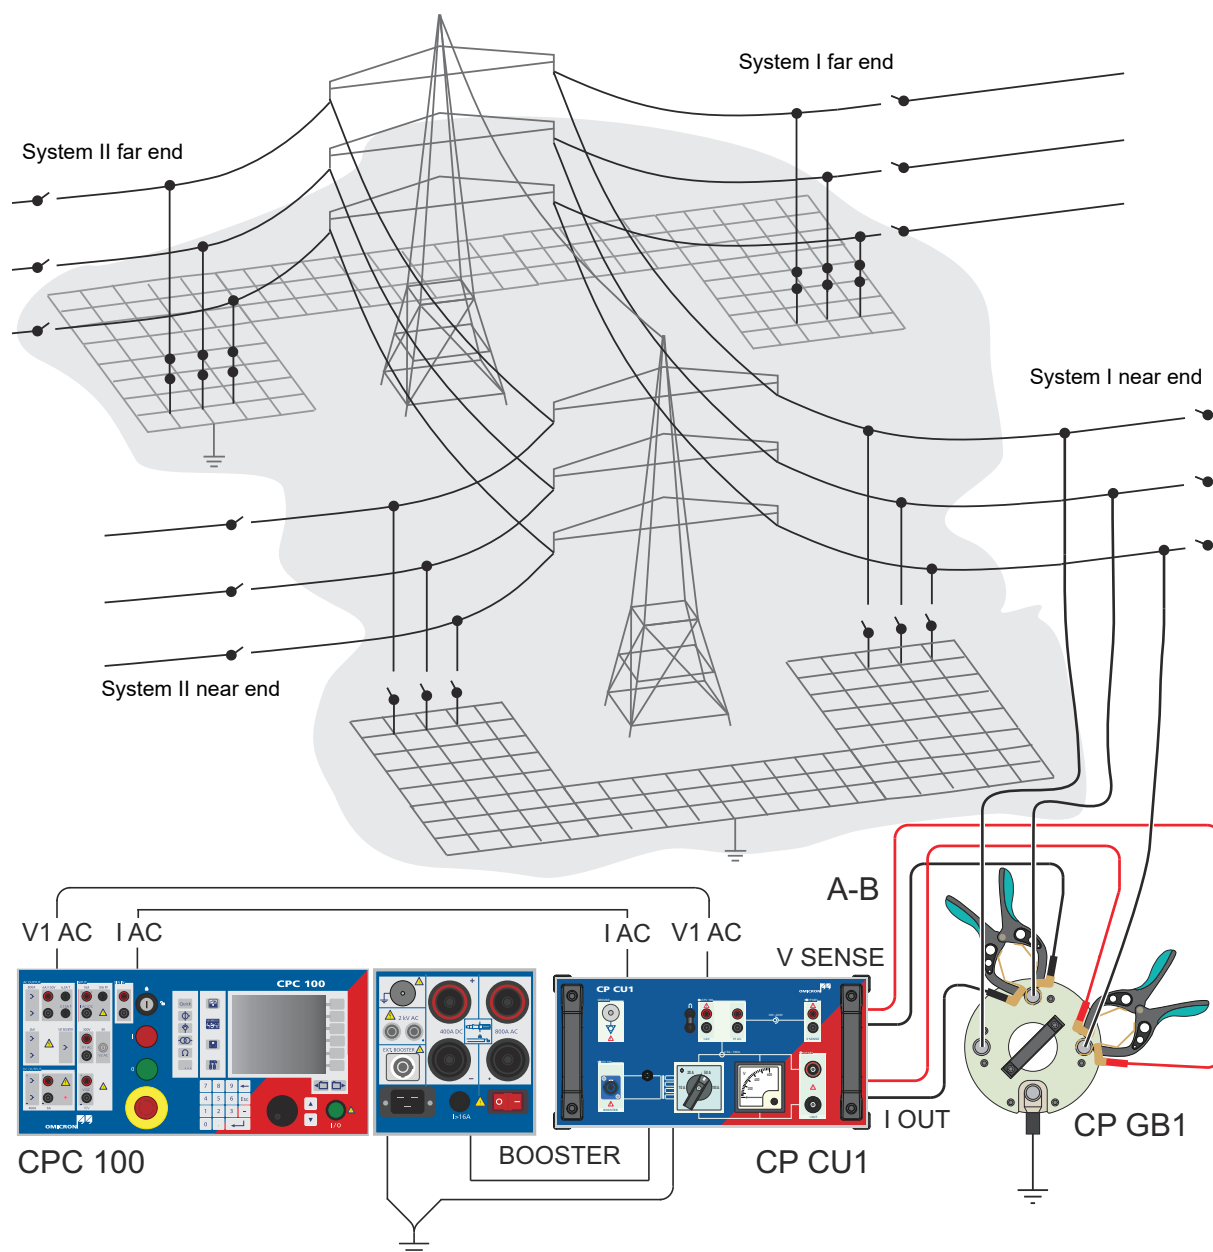
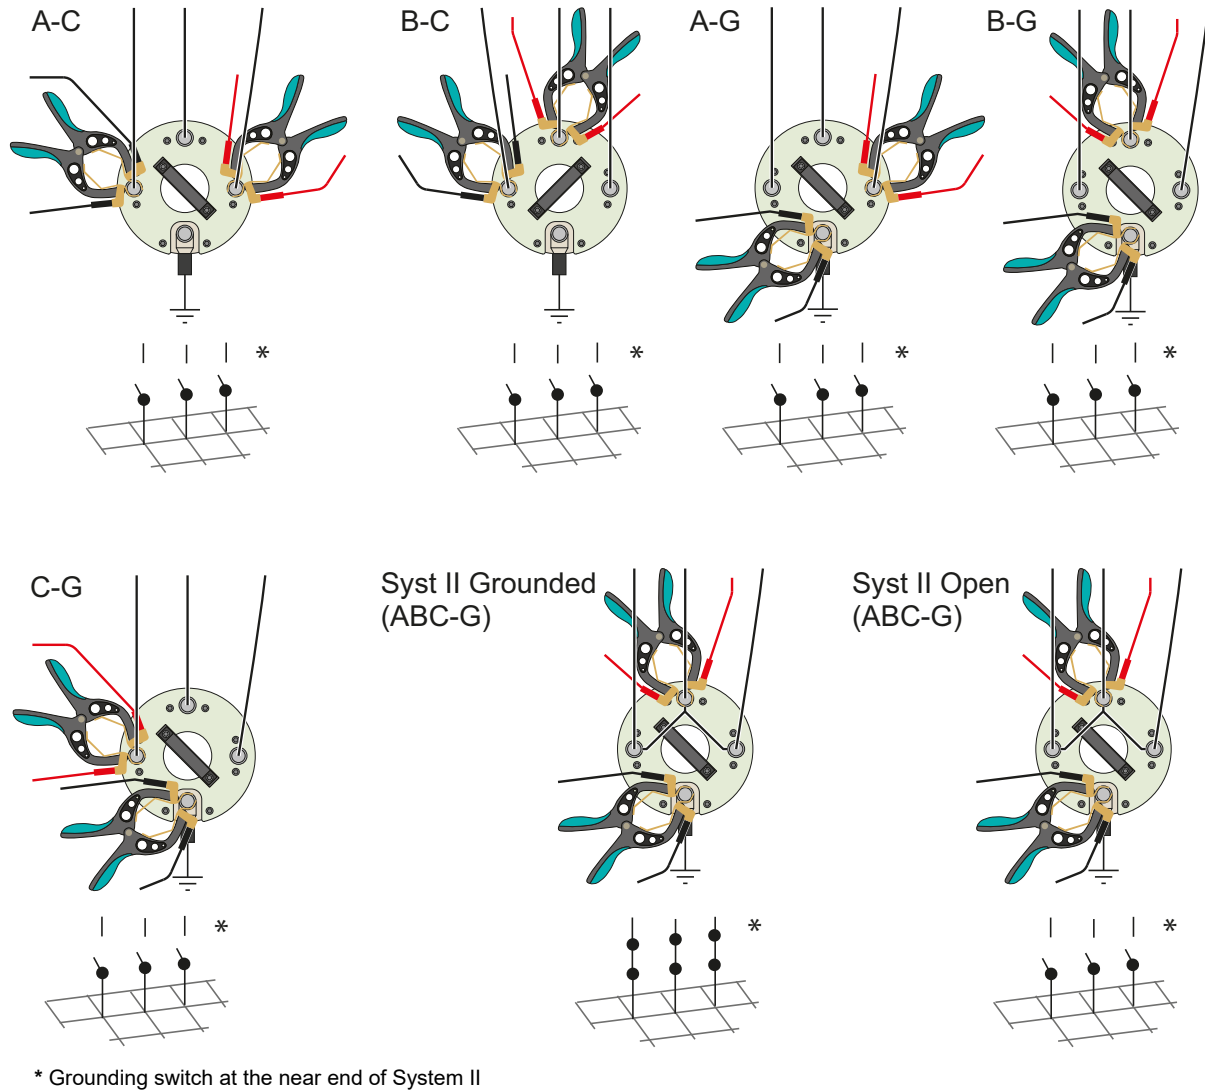

Figure 4-10: Mutual coupling measurement loop A-B
Figure 4-11: Clamp connections and state of near end grounding switch for measurement loops 2 to 8
As an example, Figure 4-10 below shows the connection of the *CP CU1* to the *CP GB1* for measurement loop A-B.
2. Change the connection accordingly for all other test loops as shown in Figure 4-11 below. Also note the state of the parallel system's grounding switches at the near end of the line.
3. Press the **I/O Button** on the *CPC 100*'s front panel to start a measurement after you have connected the clamps to the *CP GB1* according to the respective **Schema** test card as well as Figure 4-10: "Mutual coupling measurement loop A-B" on page 42 and Figure 4-11: "Clamp connections and state of near end grounding switch for measurement loops 2 to 8" on page 43.
1. Press the **I/O Button** on the *CPC 100*'s front panel to start a measurement after you have connected the clamps to the *CP GB1* according to the respective **Schema** test card as well as Figure 4-10: "Mutual coupling measurement loop A-B" on page 42 and Figure 4-11: "Clamp connections and state of near end grounding switch for measurement loops 2 to 8" on page 43.